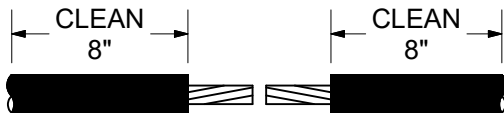

Figure 2
2. Clean the cable insulation/jacket with the cleaning pads provided. See Figure 2.